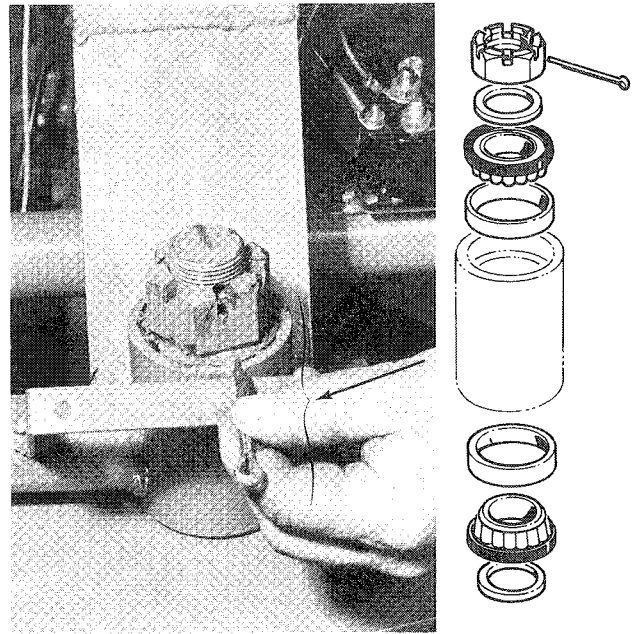

Figure 37
- Remove the fasteners from the front shroud and raise the shroud high enough to expose the large castellated nut (Fig. 37). Block the shroud up securely.
- Remove the cotter pin and castellated nut (Fig. 37). Support the wheel assembly so it will not drop and damage the wheel motor or hoses.
14. Tighten the nut while rotating the wheel fork until you can feel a slight drag on the fork. Be sure the bearings are seated. Secure the nut with the cotter pin. If the notches do not line up with the hole in the shaft, back off the nut to the closest notch (Fig. 37).